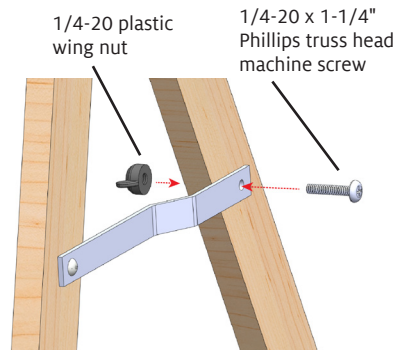

FIGURE 5: ATTACH FOLD-UP SUPPORT TO REAR LEG
5. Attach the fold-up support to the rear leg: Insert a 1/4-20 x 1-1/4" Phillips truss head machine screw through the round hole of the fold-up support, then through the rear leg. Secure with a 1/4-20 plastic wing nut (Figure 5).